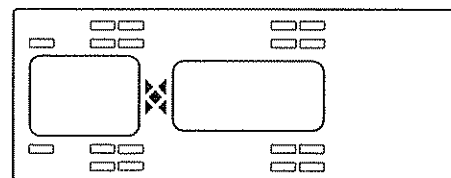

Figure 5-1
2. All of the programmed wheel positions will be flashing (see Figure 5-1).